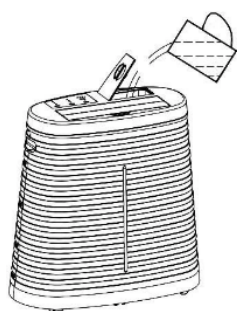

fig. 2.1
2. Unlock the tank, and slide it out (Figure 2.1).